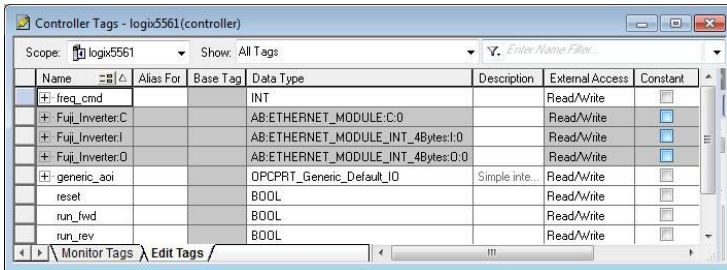

Figure 41: Create Generic Default AOI Tags
- 4) Create the tags in Figure 41.